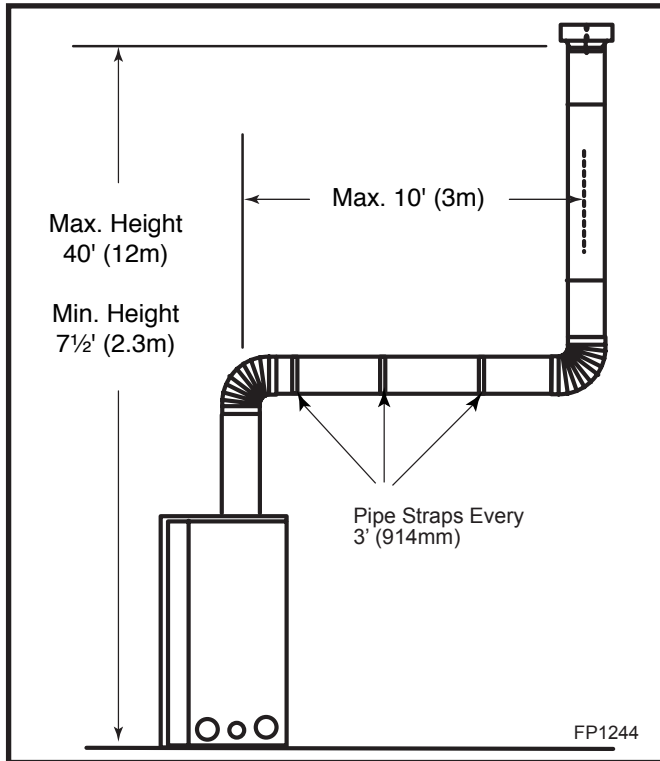

Fig. 26 Support straps for horizontal runs.
- Vertical installations up to 40' (12 m) in height. Up to a 10' (3 m) horizontal vent run can be installed within the vent system using a maximum of two 90° elbows. (Fig. 26)